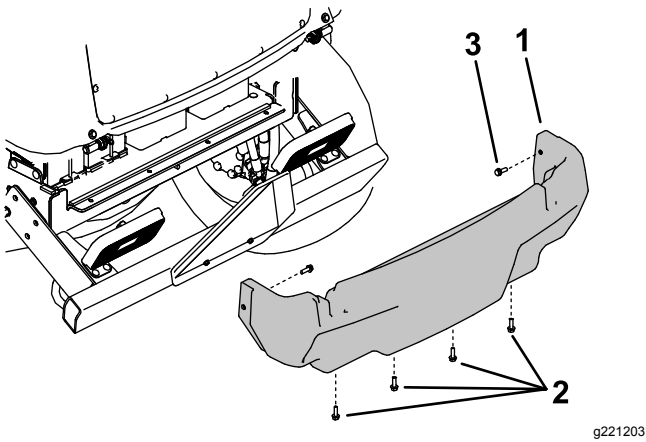

Figure 3
5. Loosen the 4 flange screws on the bottom of the rear shroud and remove the 2 flange screws on each side (Figure 3).